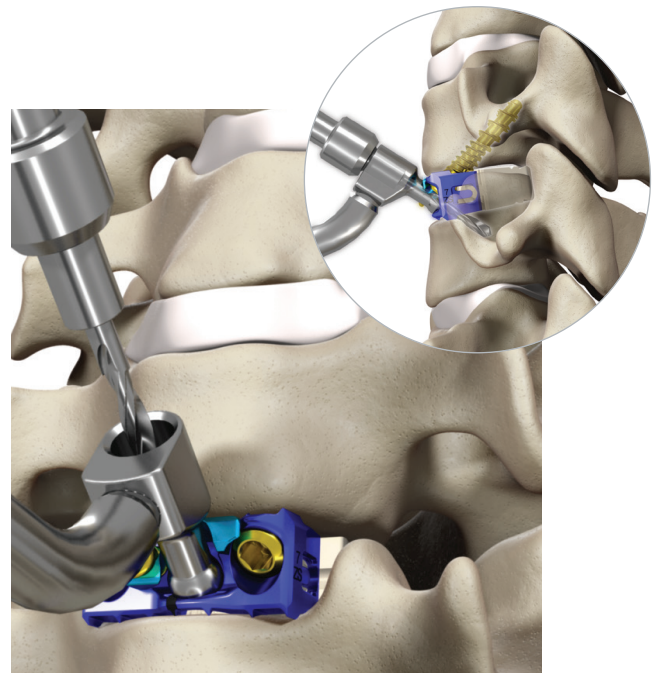

Figure 18
- The fixed angle guide or variable angle guide allows the awl/drill (straight, flexible, or U-joint options) to prepare for the midline screw hole. Seat the guide tip into the medial screw hole. Place the awl/drill through the selected drill guide until the positive stop contacts the guide. The awl/drill will create a pilot hole 6 mm deep. Intra-operative imaging should be used to verify awl/drill position and determine the appropriate length screw (Figure 18).